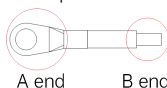

Fig. 1-2 Grounding terminal connection
(5) Grounding: MV810-PNET01 must be grounded during wiring as shown in Fig. 1-2. You need to prepare and crimp the cable by yourself.